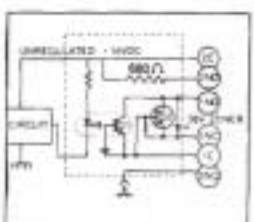

Fig. C2: Logic Output (GA)
- Optional - 'GA' Logic output: Dual transistor output containing one NPN with same characteristics as 'G' output and one opto-isolated transistor  $V_{ce(sat)} = 1.0V$  Max. @ 4ma.  $V_{ceo} = 30$  VDC Max,  $I_c = 4$  ma Max. See Fig. C2.